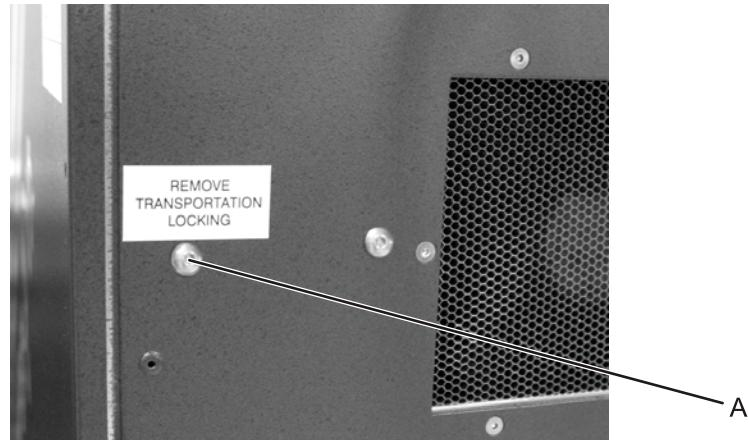

Figure 136: Vacuum pump transport locking screw
1. Use the 2.5 mm allen to remove the transport locking screw and plastic washer from the marked position on the connection side of the laser device (see Figure 136, A).